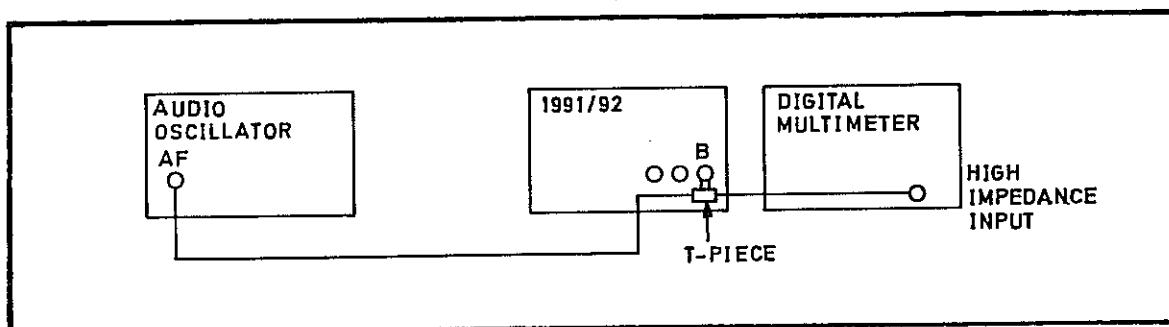

Fig 7.18 Connections for Channel B Sensitivity PVP
- 49 (1) Connect the test equipment as shown in Fig 7.18.
- (2) Set the signal generator output to the frequencies shown in Table 7.7 in turn. Set the 1991/92 resolution to the corresponding value. Enable the 50 kHz filter.
- (3) At each frequency, determine the minimum input level to the 1991/92 which gives stable counting. Verify that this is not more than the level shown in the table.
- (4) Press **2**    **0**    **SHIFT**    **STORE**    **SF**    **SHIFT**    **SF**
- (5) Disable the 50 kHz filter. Disconnect the test equipment.